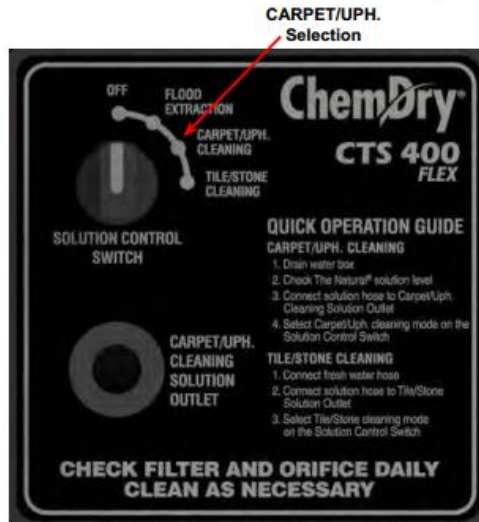

Figure 2-2. Select “CARPET/UPH.” on Solution Control Switch
4. Select “CARPET/UPH.” on the Solution Control switch (see Figure 2-2).